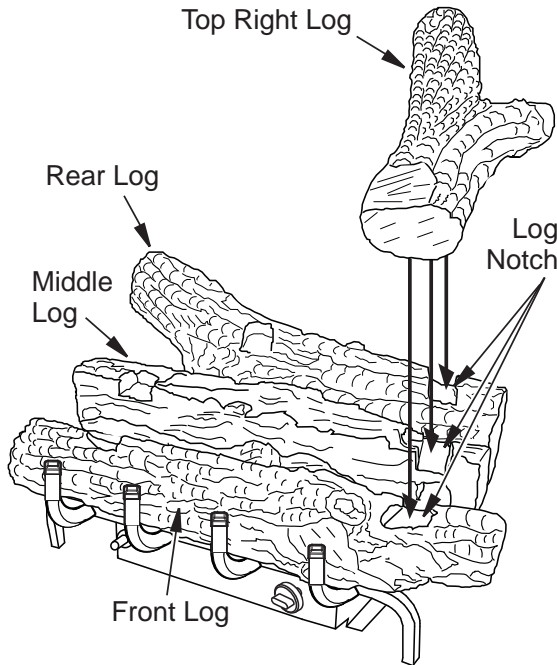

Figure 27 - Installing Top Right Log
4. Place the top right log onto the rear, middle and front logs as shown in **Figure 27 (Page 20)**. The rear, middle and front logs has notches for the top right log to set into. You may have to move the front log from left to right to get it to line up with the top right log.